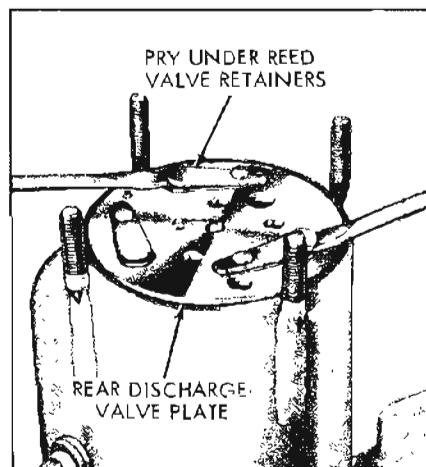

Figure 11-71—Removing Rear Discharge Valve Plate
9. Carefully pry out rear discharge valve plate and rear suction valve reed disc with screwdrivers (see Figures 11-71 and 11-72). Check both pieces and replace as necessary.